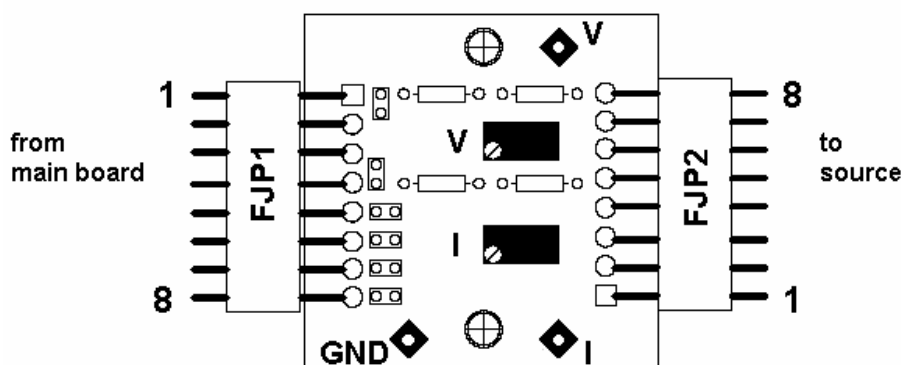

Figure III-7 : Calibration board
5. Verify the tensions at the test points of the calibration board (see Figure III-7 and Table III-1). Adjust by the aid of the two potentiometers if necessary.
6. Verify if the voltages at connectors JP1 and JP2 of the calibration board (Figure III-7) correspond to the values given in Table III-1. If not
10. Decrease the tube current by adjusting potentiometer P2 on the calibration board (see Figure III-7) until 1.95V will be measured at test point TP3 (“I”).
3. Verify if the voltages at connectors JP1 and JP2 of the calibration board (Figure III-7) correspond to the values given in Table III-1. If not